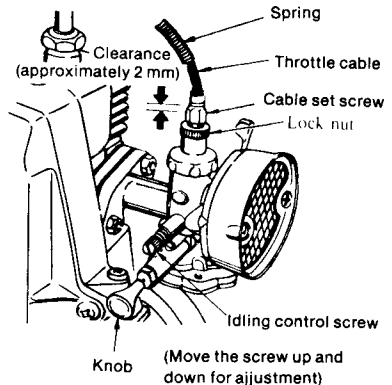

Fig. 9
- Make sure throttle lever operates approximately at 60° swing. (Adjust at connection to carburetor.) Fig. 9
4. **Adjusting Engine (Fig. 9)**